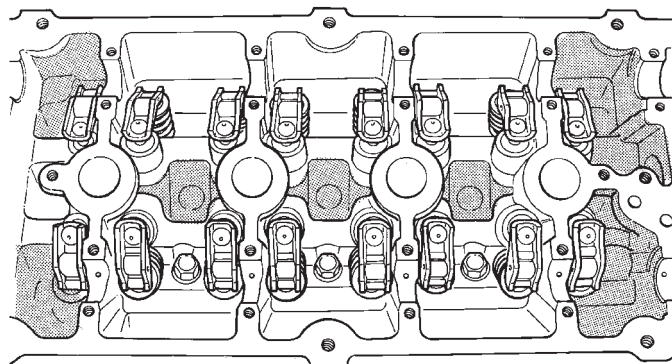

Fig. 33 Cam Follower Assemblies—Installation
- (1) Lubricate with clean oil and install cam follower assemblies in their original position on the hydraulic adjuster and valve stem (Fig. 33).
- (2) Install the camshafts. Refer to procedure previously outlined in this section.
- (3) Install timing belt, sprockets and covers using procedure outlined in this section.
- (4) Install cylinder head cover using procedure outlined in this section.